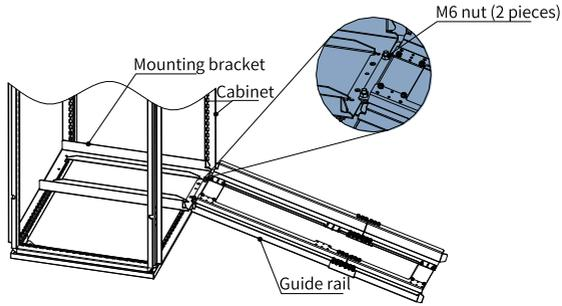

Figure 5-9 Mounting the guide rails on the cabinet
b. Align the two round holes on the front end of the guide rails with the screws of the mounting bracket, and lock them with two M6 nuts, to mount the guide rails on the cabinet, as shown in *"Figure 5-9 " on page 84 .*